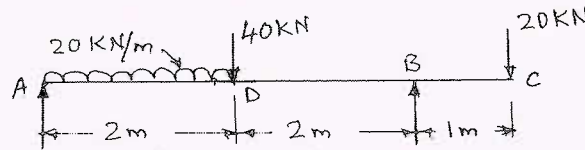

Fig.Q5(b)
- b. Draw SFD and BMD for the overhang beam shown in Fig.Q5(b). Indicate all the significant values.